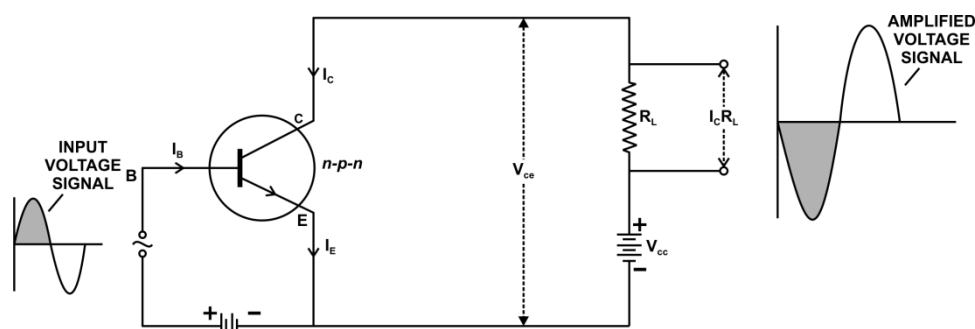

Fig. 2.9 Circuit diagram for common emitter amplifier
- In a common emitter amplifier, the emitter of the transistor is common to base and collector. Fig. 2.9 shows the common emitter amplifier circuit using an n-p-n transistor.
- Suppose that first half cycle of a.c. input voltage is positive. From fig 2.9, as base is connected to the positive pole of the battery V_{bb} it will make base more positive. Thus, negative forward bias of emitter will increase. It will increase the emitter current and hence the collector current. The increase in collector current will increase potential drop across R_L and then accordingly the collector voltage V_{ce} will decrease. As collector is connected to positive pole of the battery V_{ce} the decrease in collector voltage means that collector will become less positive i.e. negative output signal will be obtained. Thus, corresponding to the positive half cycle of a.c. input, negative output half cycle will be obtained.